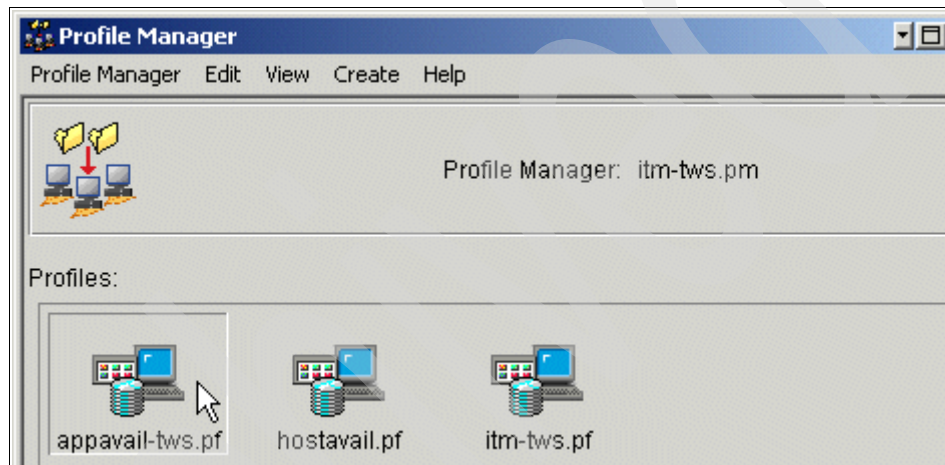

Figure 9-79 Opening the appavail-tws.pf profile
1. Double-click the **appavail-tws.pf** profile, as shown in Figure 9-79.